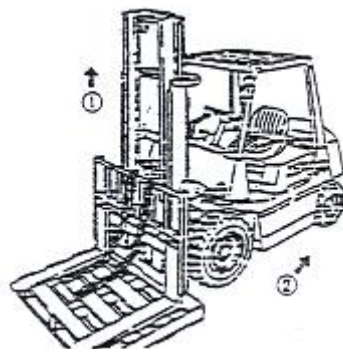

Figure 2-19
- (1) Fork a pallet and park the car on a level ground.
- (2) Drop the fork and pallet to the ground.
- (3) Remove the upper end connector of the chain and remove the chain from the sprocket
- (4) Lift the inner mast (① in Figure 2-19).